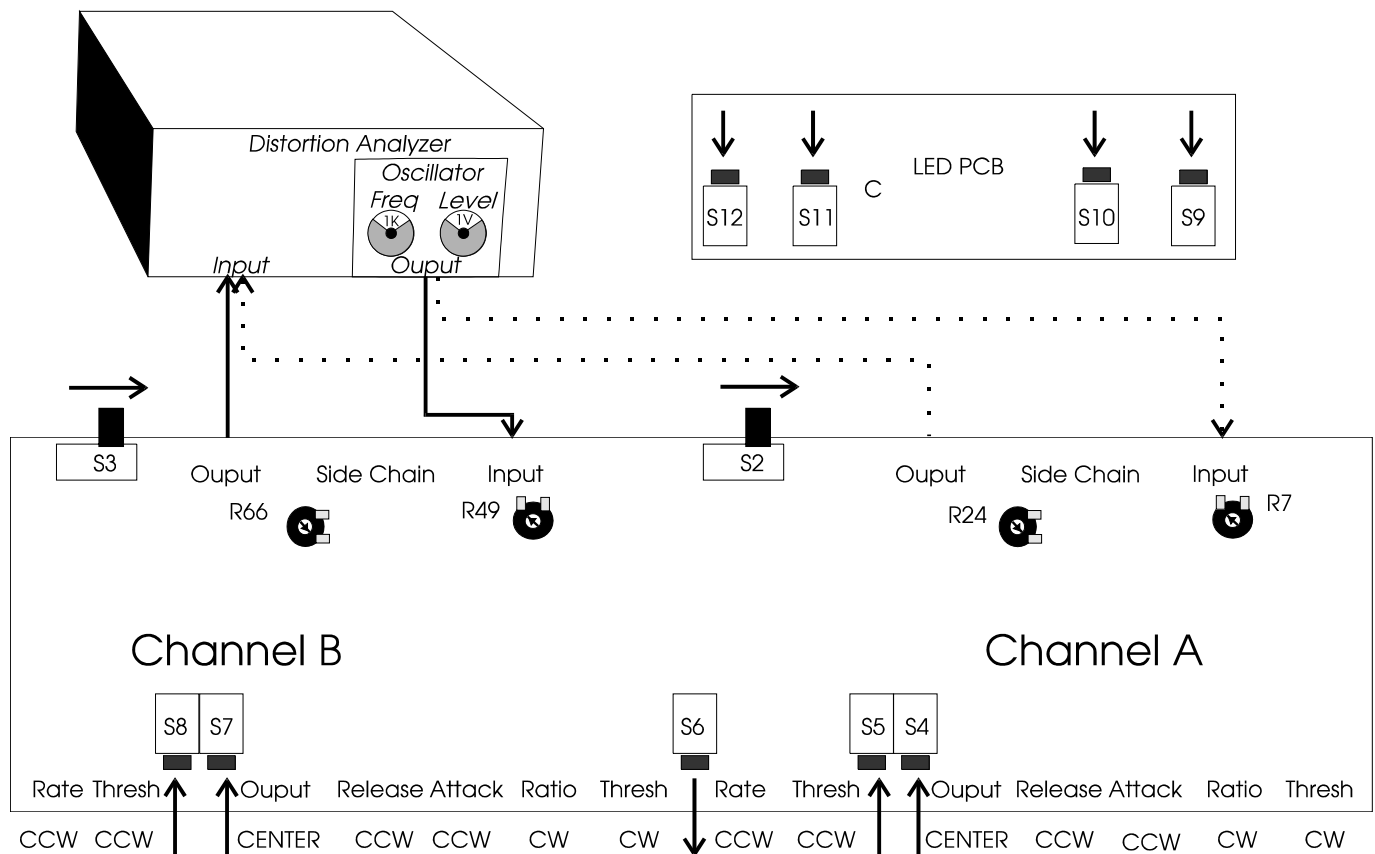

Figure 3-QC Test Setup
- ✓ Connect equipment to channel A and set all knobs and switches according as shown in Figure 3.
- ✓ Connect equipment to channel A and establish settings as shown in Figure 3.
- ✓ Connect equipment to Channel B and establish settings as shown in Figure 3.